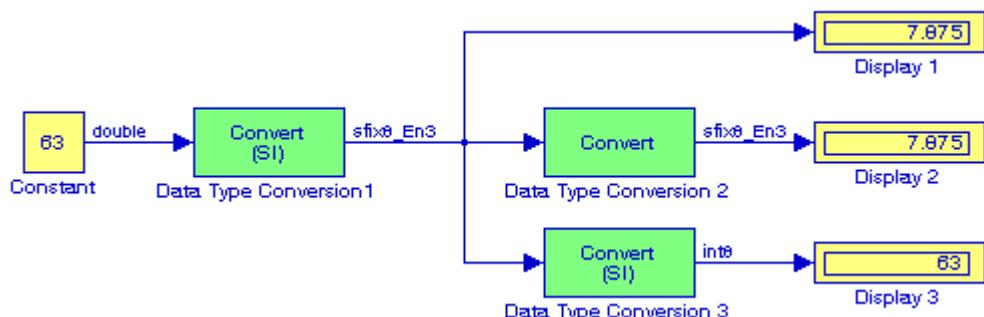
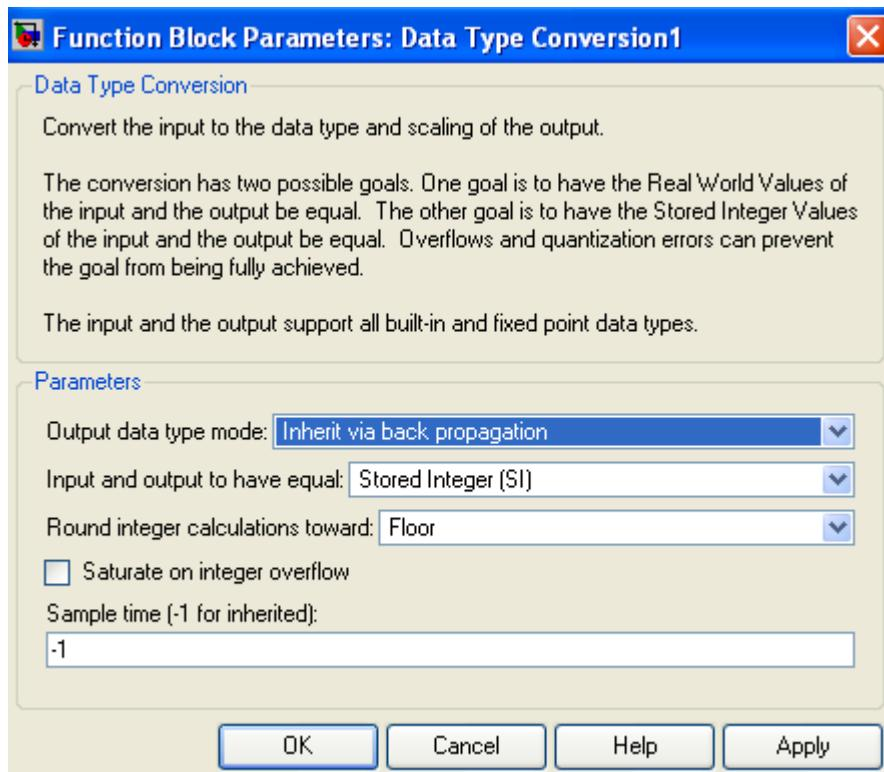
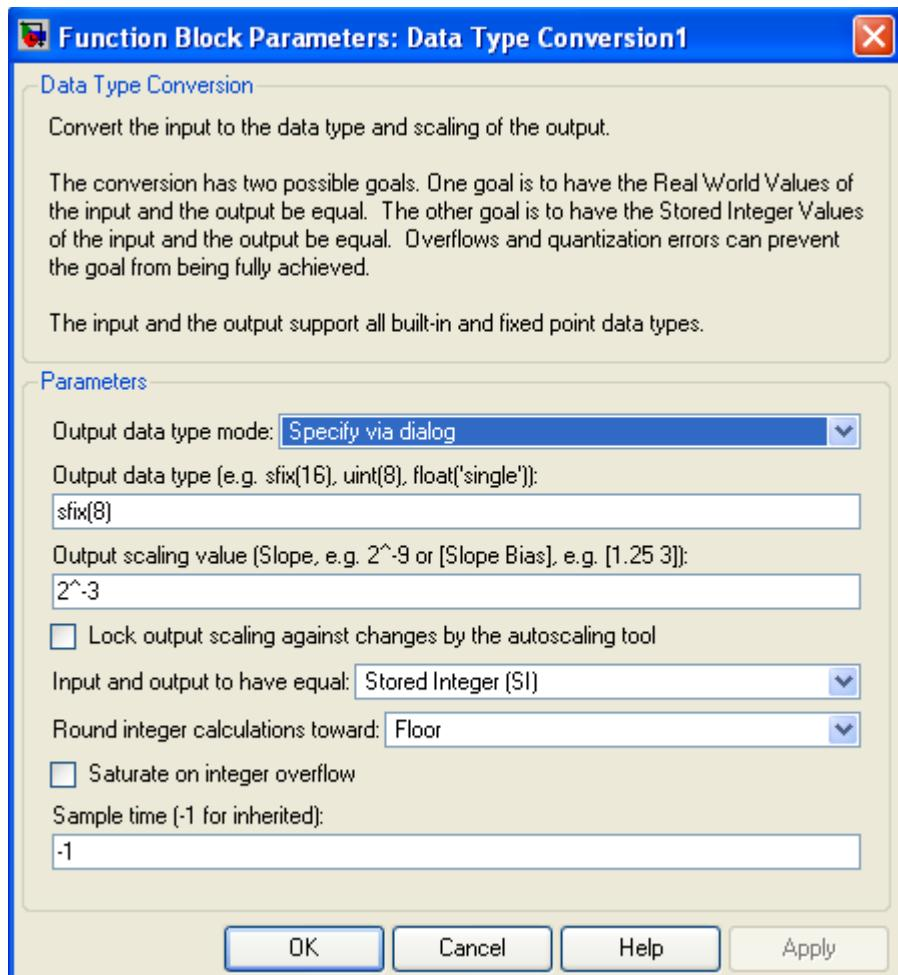

Figure 2.34. Model for Example 2.16
Figure 2.35. Function Block Parameters Dialog Box 1 for Example 2.16
Figure 2.36. Function Block Parameters Dialog Box for the Data Type Conversion 1 block, Example 2.16
The model is shown in Figure 2.34 uses three Data Type Conversion blocks. In the Data Type Conversion 1 block the input is processed as Stored Integer (SI) and scales the value 63 to be shown as 7.875. In the Data Type Conversion 2 block the input is processed as Real World Value (RWV) so that the input and output will be equal. We use the third block to treat the input as a Stored Integer with no scaling so that the Display 3 block will show the true value 63.
We double-click the **Data Type Conversion 1** block in Figure 2.34 and on the **Function Block Parameters** dialog box shown in Figure 2.35, we change the **Output data type mode** from **Inherit via back propagation** to **Specify via dialog**. On the new **Function Block Parameters** dialog box shown in Figure 2.36, we enter the following:
The labels in Figure 2.34 are displayed by choosing **Format>Port/Signal Displays>Port Data Types**. Display 1 block shows the value 7.875. This is because the binary presentation of 63 with 8 bits is 00111111 and since we specified the Output scaling value as 2^{-3} , the binary point is shifted 3 places to the left of the least significant bit, and becomes 00111.111 whose value in decimal is 7.875. Display 2 block shows the same value for reasons explained below. Display 3 block shows the true value 63. This is because we specified the Output scaling value as 2^0 , and thus the binary number is 00111111 whose value in decimal is 63.